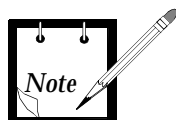

**Figure 9. Location of Tuning Screws and Cavity Probe Holes**
3. Detune the preselector by turning the 5 tuning screws (see Figure 9) clockwise (Be careful not to apply more than 0.34Nm (3 in-lb) of torque to the tuning screws in order to prevent warping the preselector cover and housing):
3. Insert tuning probe into cavity H1 (refer to Figure 9) and adjust tuning screw 1 for a **PEAK**.